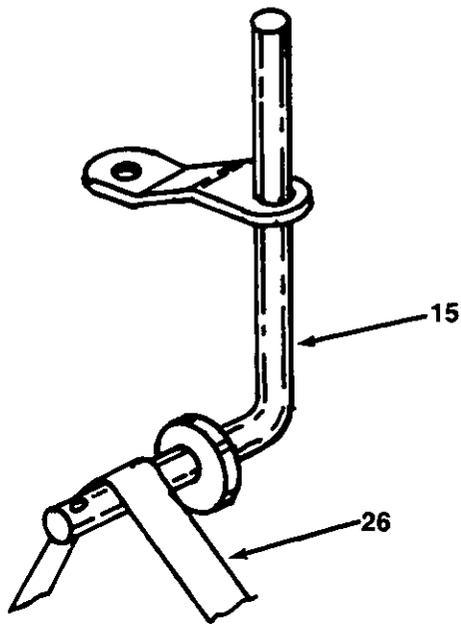

FIGURE 7.
7. Before reassembling the axle(s), they should be cleaned and polished with emery cloth (fine). See figure 7.